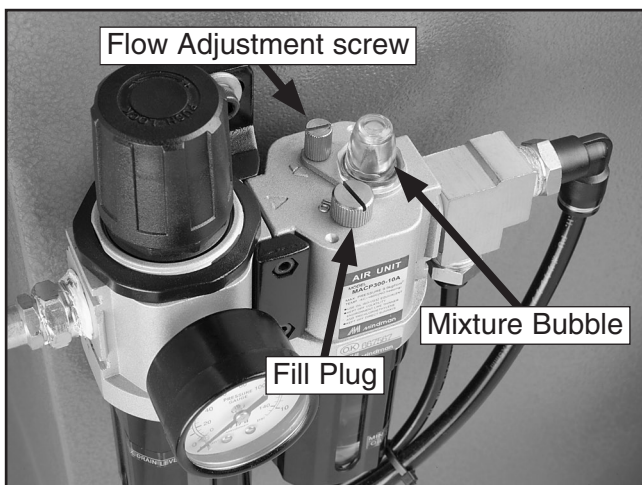

Figure 34. Pneumatic oiler.
2. Fill the oil reservoir with ISO-VG32 tool oil (see **Figure 34**).